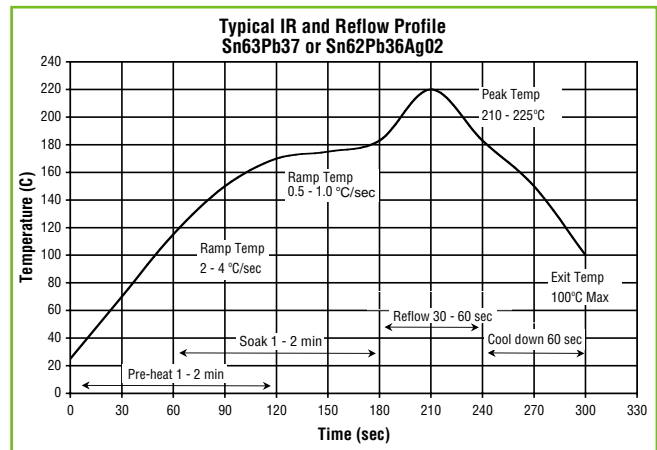

Figure 1. Typical Reflow Profile Using Sn63/Pb37 or Sn62/Pb 36/Ag02 Alloy
**8.0 REFLOW ATTACHMENT.** ATC recommends three methods of reflow attachment: Convection Reflow, Vapor Phase Reflow and IR Reflow. All are best accomplished in conveyorized ovens. The most critical assembly issue for ceramic chip capacitors is the heating and cooling rate, Refer to **Figure 1**. In the preheat portion of the process, ideal profiles for any of these methods will exhibit a ramp-up rate that is equal to 2° C/second. The user is advised never to exceed a maximum rise rate of 4° C/second. Careful attention should be paid to the ramp down rate. After exiting from a soldering operation, the board or substrate should be allowed to cool at their own natural rate, without heat sinking. The user is advised to cool the product to well below 60° C before attempting any cleaning operations and to never withdraw parts from the oven at temperatures above 100° C.